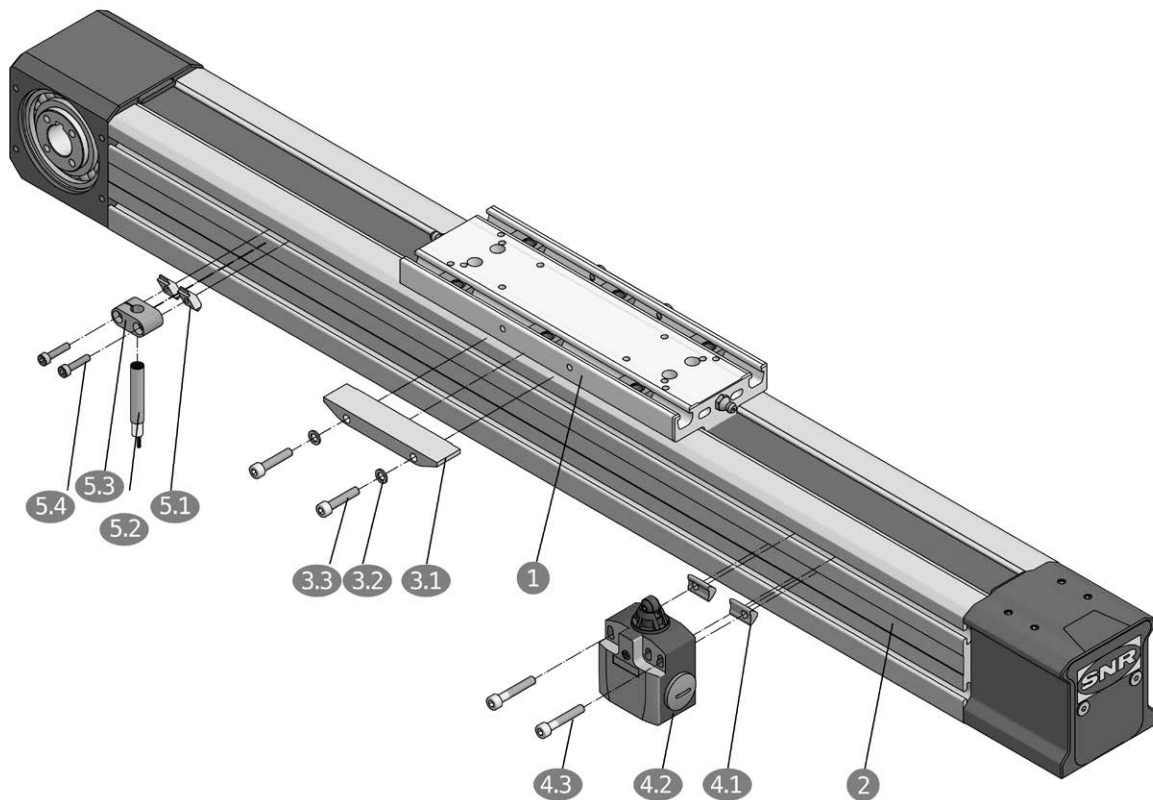

Figure 3.12 __ Mounting of limit switches for linear axis AXE_Z
For the mounting of the limit switches and actuating elements the following steps must be taken into account according to Figure 3.12. The table ① and the profile ② of the linear axis are designed symmetrically to allow mounting on both sides.